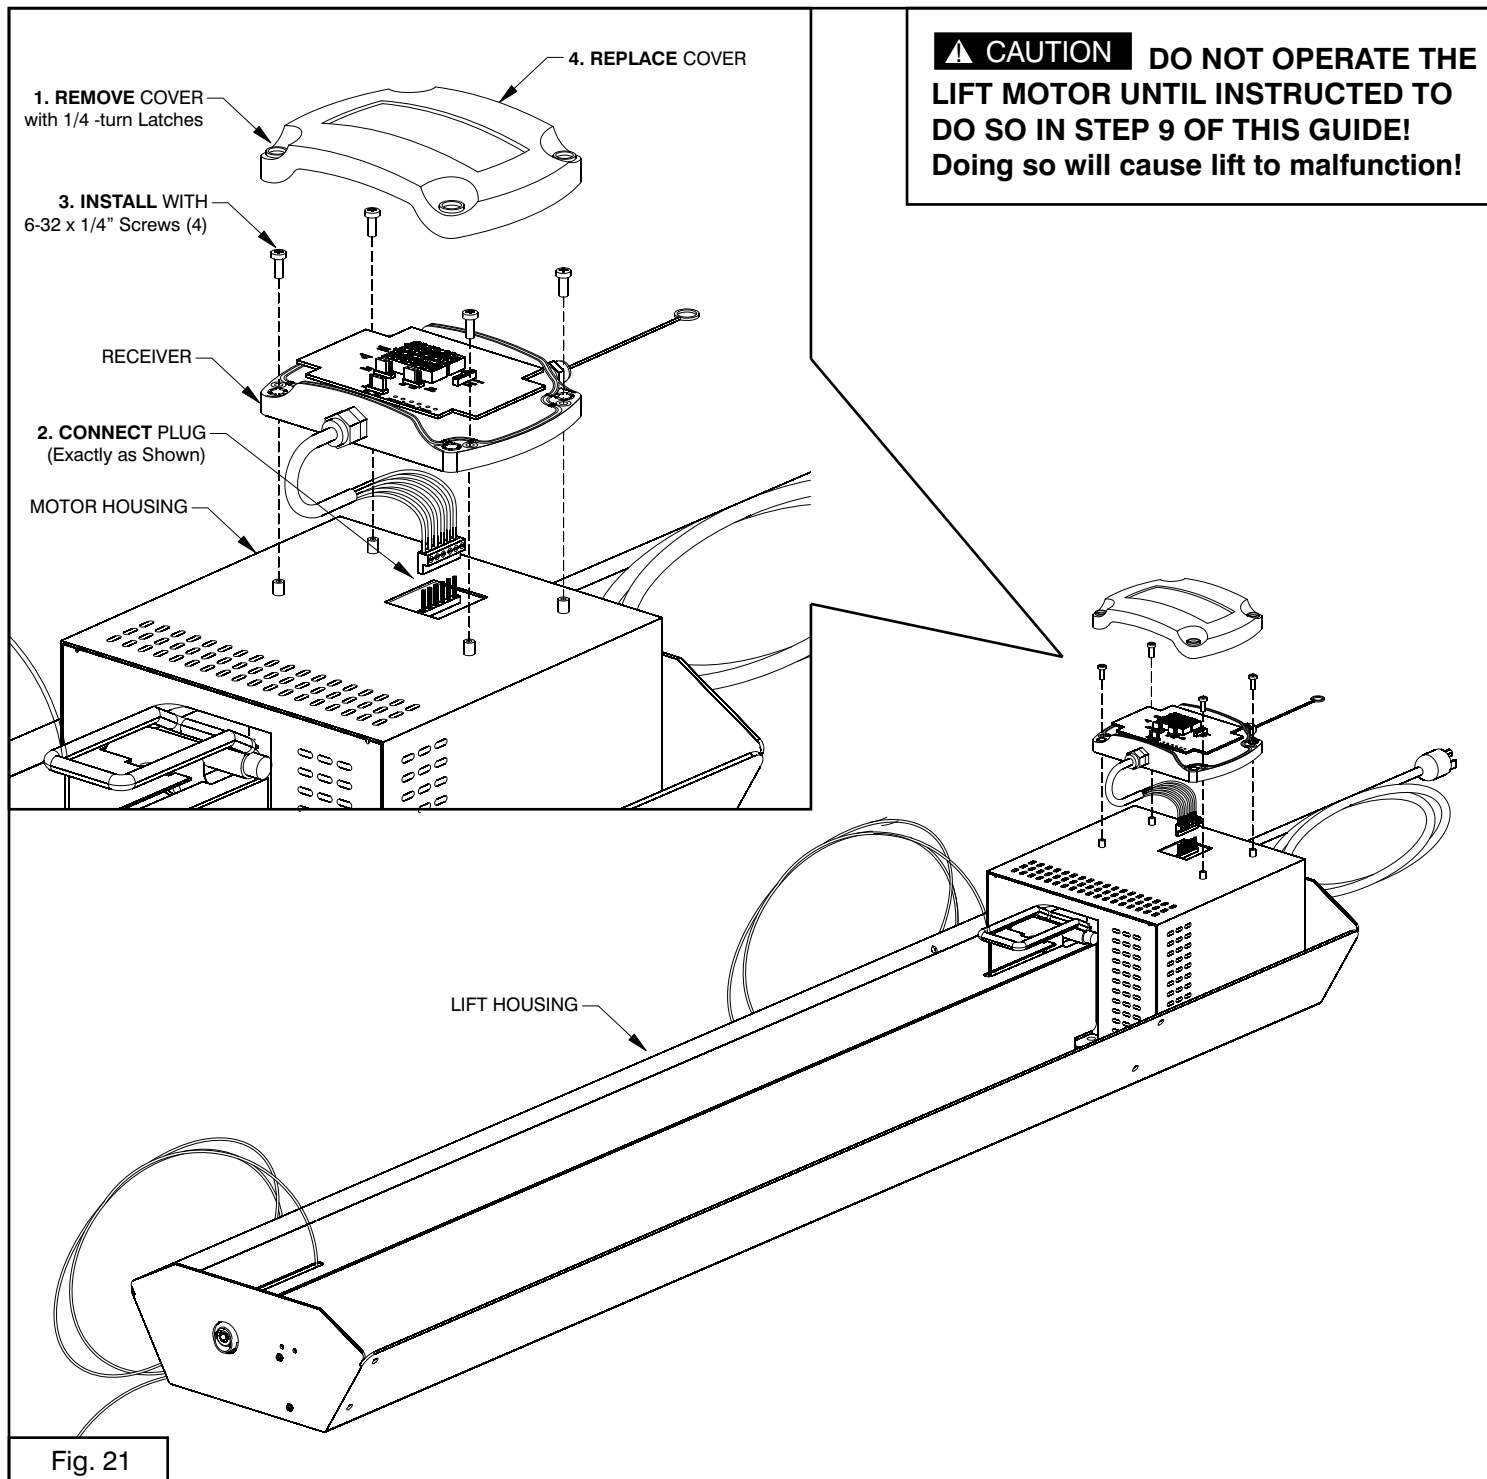

Fig. 21
**This step requires two persons.** This assembly step should be done in the attic. Locate the parts shown below and move them up to the attic. The lift housing is heavy and requires two able persons to move it up to the attic. Place the lift housing on a rug or piece of cardboard open-side-up as show below in Fig. 21.
flat-tip screwdriver (Fig. 21 inset).